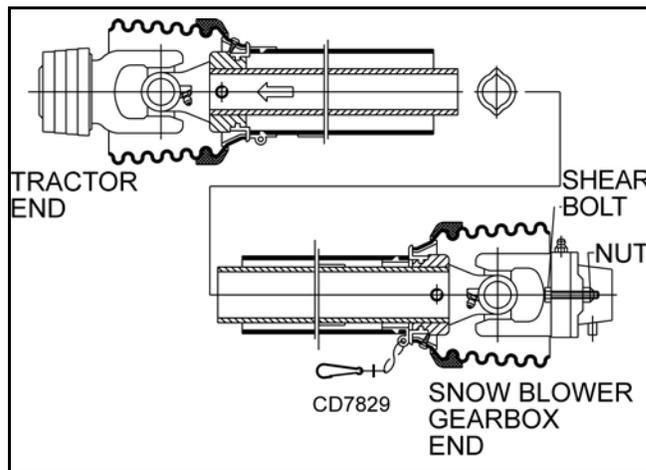

Figure 7. Shear Bolts
9. The PTO driveline is equipped with a shear bolt, Figure 7, that protects drive system components from shock loads if machine strikes an obstruction. See parts section for bolt size and grade.